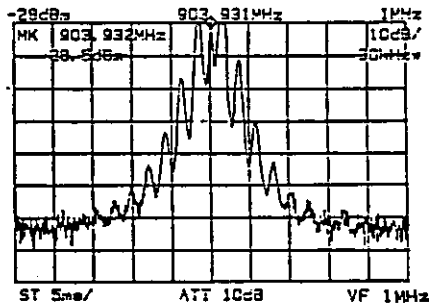

Figure 5-11 Measurement of FM Wave When Modulation Frequency Is Low
- ⑤ Lower the reference level (Figure 5-11).